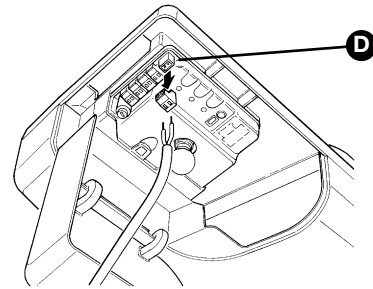

Figure 66
- The terminals **[D]** can be removed in order to facilitate the operations as shown in figure 66; make the connections and then reinsert them.